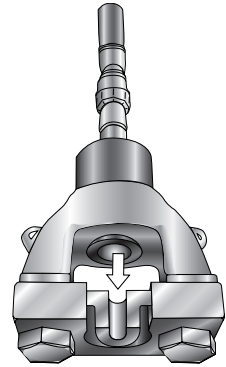

Figure 46
2. Insert "U-shaped" Nut Die into the back-up plate of the Hydraulic Ram as shown in Figure 46.
4. Close the pressure relief valve on the side of the hand pump. Pump the hand pump until the ram reaches a positive stop. At this point an increase in resistance of the handle will be felt and the nut will bottom against the shoulder of the body die (Figure 46).